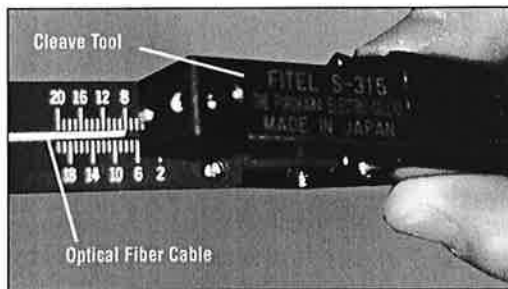

Figure 4
7. As shown in Figure 4, cleave each fiber using the Cleave Tool (P/N 492674-1), leaving an exposed glass length after cleaving of: